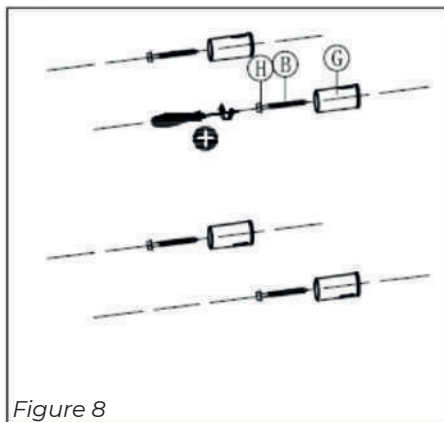

Figure 8
7. Screw the four outer wall brackets with self- tapping screws (Figure 8, pos. B) and spacer rings (Figure 8, pos. H) in to the four plugs.